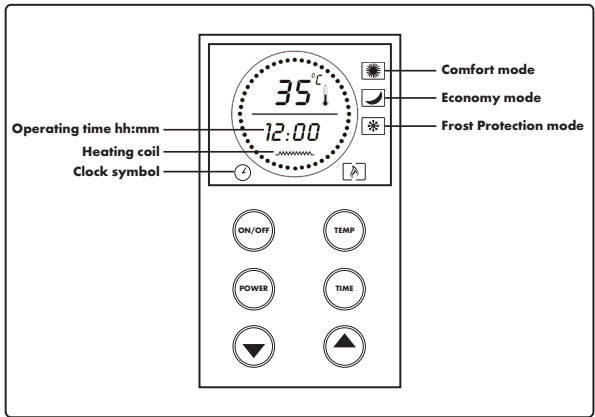
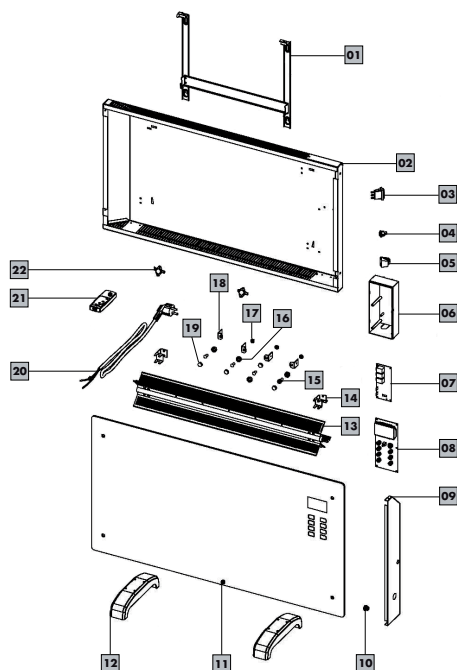

Fig. 3: Control panel
Fig. 4: Exploded view
- Press the "ON/OFF" button on the control panel (see Fig. 3). The LCD display lights up blue. The device is now in Standby mode.
1. Press the "TEMP" button (see Fig. 3) in Standby mode. The room temperature is shown in the display.
The temperature can also be changed during operation. Press the "TEMP" button (see Fig. 3) and set the desired room temperature. Confirm the room temperature by not pressing any button for approx. 7 seconds or by pressing the "TEMP" button (see Fig. 3) again. The room temperature stops flashing and the ambient temperature appears on the display again.
3. Use the "POWER" button (see Fig. 3) to toggle between the heating stages (see Tab. 4).
1. Press the "TIME" button (see Fig. 3) in Standby mode. The first two digits of the time "00:00" hh:mm begin to flash.
2. You can use the Up and Down arrow buttons to set your desired operating time. Pressing the "TIME" button (see Fig. 3) again lets you change between the digits for hours and minutes (hh:mm).
3. Confirm the time by not pressing any button for approx. 7 seconds or by pressing the "TIME" button (see Fig. 3) again. The time no longer flashes on the display.
4. The clock symbol (see Fig. 3) on the display flashes and the set time counts down. The device automatically switches off after the time comes to an end. "00:00" reappears on the display.
1. To interrupt the heating process, press the "POWER" button (see Fig. 4) until the frost protection symbol (see Fig. 3) flashes.
2. The heating coil  (see Fig. 3) on the display disappears and the device stops heating.
The device is not switched on.	Move the ON/OFF switch (see Fig. 3, No. 3) to position "I".